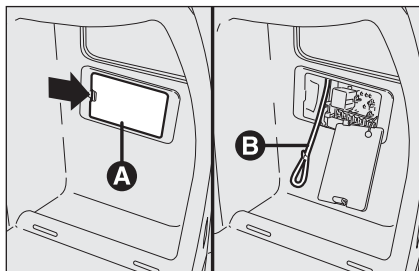

fig. 29
- open the fuse box lid **A-fig. 29** on the right side of the boot as shown by the arrow;